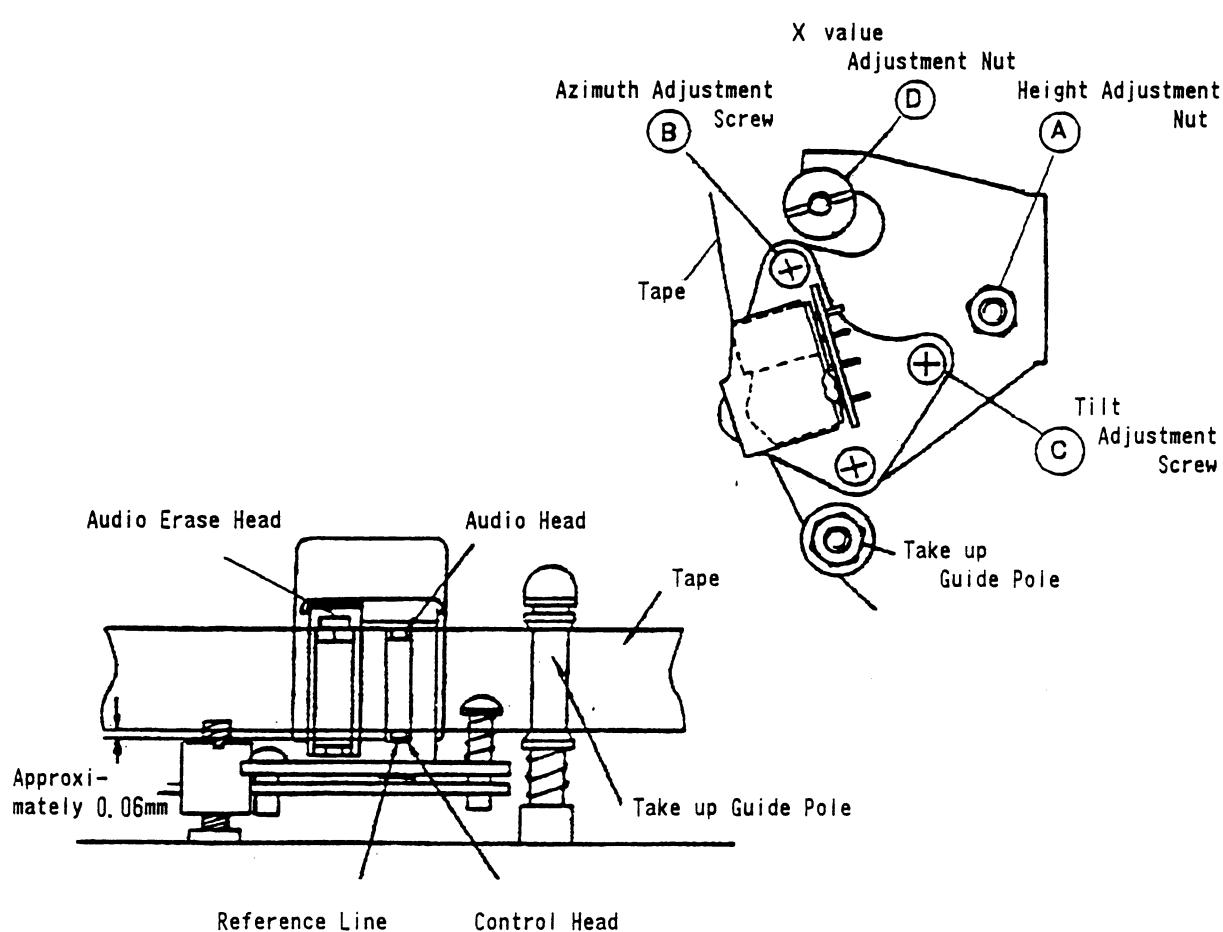

Fig. 2-7
2. Adjust the height of the edge of the audio track on the audio control head by using the height adjustment nut **A** and the tilt adjustment screw **C** so that the tape transport is smooth at the take-up guide pole. Align the audio control head height. (Refer to Fig. 2-7.)
2. Confirm that the tape running between the take-up guide roller and the audio control erase head has no slack. If the tape has slack, take it up by turning the tilt adjustment screw ④. (Refer to Fig. 2-7.) Then readjust GUIDE ROLLER HEIGHT in section 2-2 and the X value in section 2-4.
3. After confirming on the oscilloscope that a 1 kHz audio signal is being output by playing back F6-A test tape, adjust the height adjustment nut ③ so that the AC voltmeter's reading is brought to its maximum level. (Refer to Fig. 2-7.)
1. After confirming on the oscilloscope that an audio signal is being output by playing back F6-N test tape, adjust the azimuth adjustment screw ⑤ so that the AC voltmeter's reading or oscilloscope waveform is brought to its maximum level (Refer to Fig. 2-7).
Note: Fix the screw ⑤ with lock paint after readjustment (Refer to Fig. 2-7).